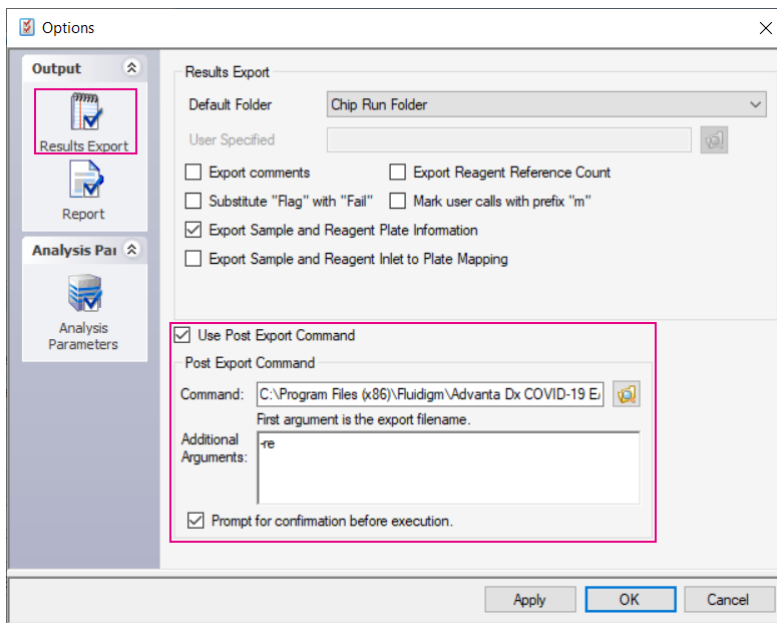

Figure 1. Results Export options
- b Click **Results Export in the Output** section (Figure 1 on page 4).